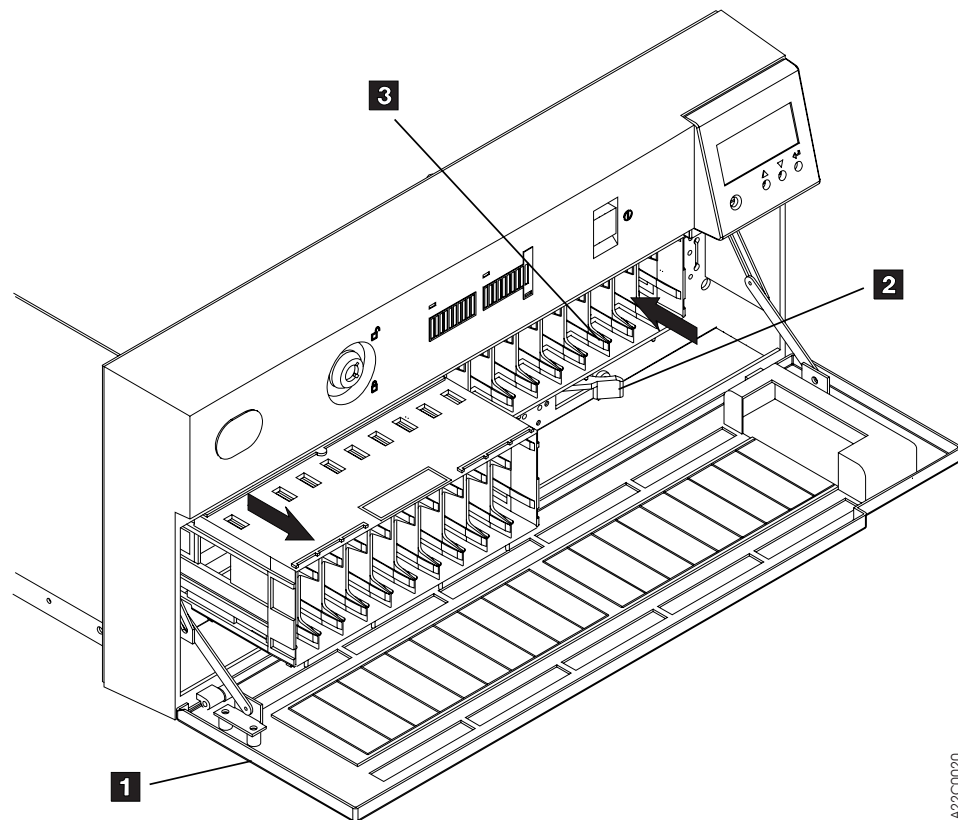

Figure 63. Loaded and Unloaded Magazine (with the Door in the Open Position)
To insert a magazine (see Figure 63):
To remove a magazine (see Figure 63):
4. Pull the magazine straight out as shown in Figure 63.